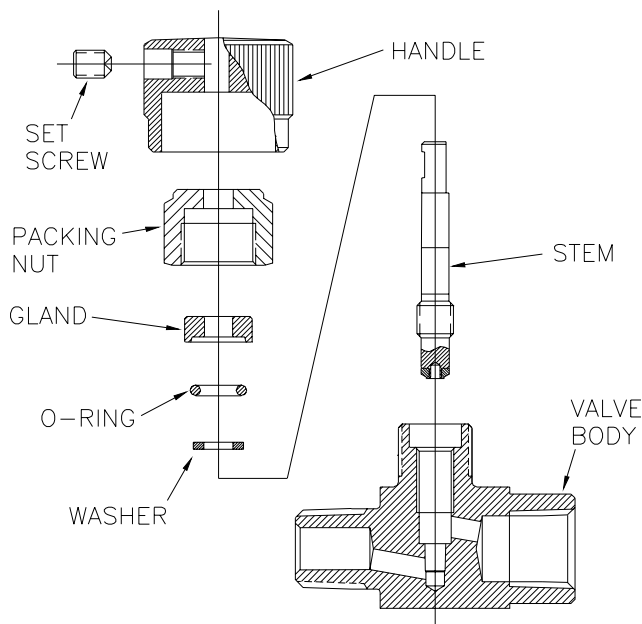

Figure 3: Bar Stock Needle Valve
- B) O-Ring Stem Packing (optional): Apply a small amount of lubricant, as consistent with the valve's service requirements, to the Stem O-Ring. Refer to Figure 3. Stack the three packing components on the Lower Stem (either "K" or "R") in the following order, with the first item being placed above the Stem threads. Then proceed to Step 8.